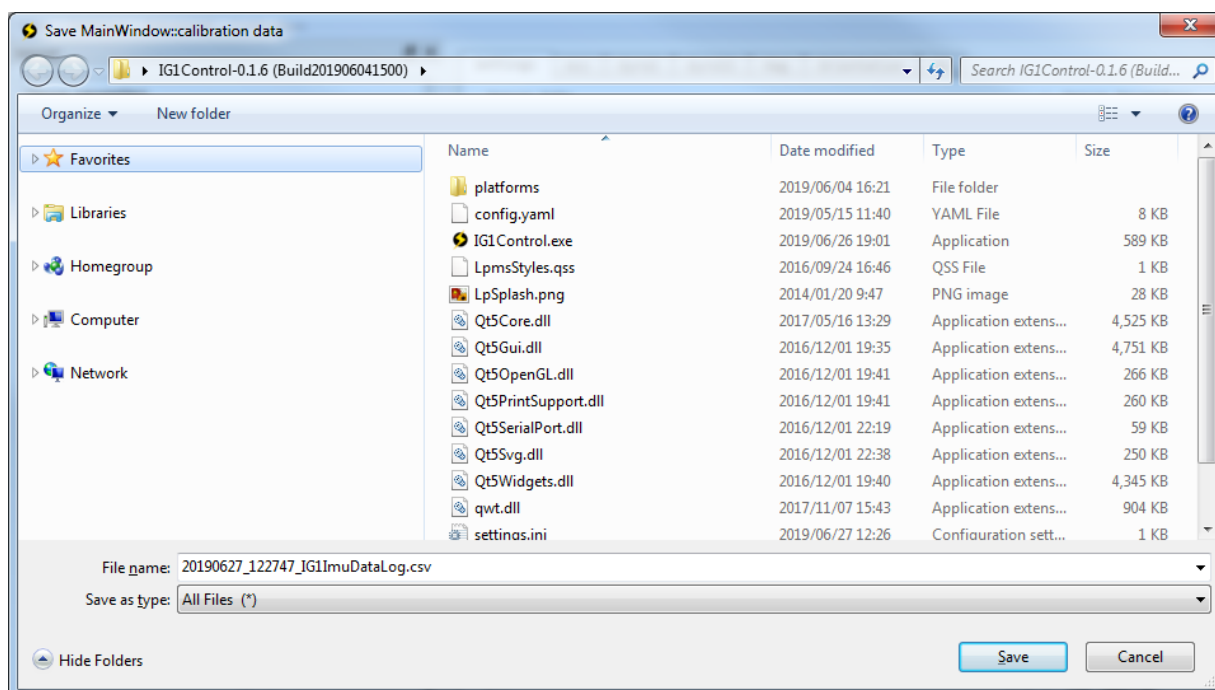

Fig. 8. IMU data saving
2) to stop data logging by clicking on the "Stop Saving" button. A window will be popped out for asking the path to save the sensor IMU data, as showed in Fig. 8.